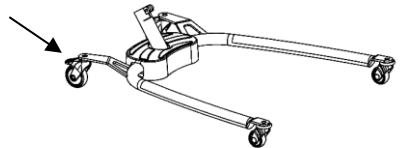

Fig. 1.6A
1. Place the base on the floor and brake the wheels. (Fig. 1.6A)